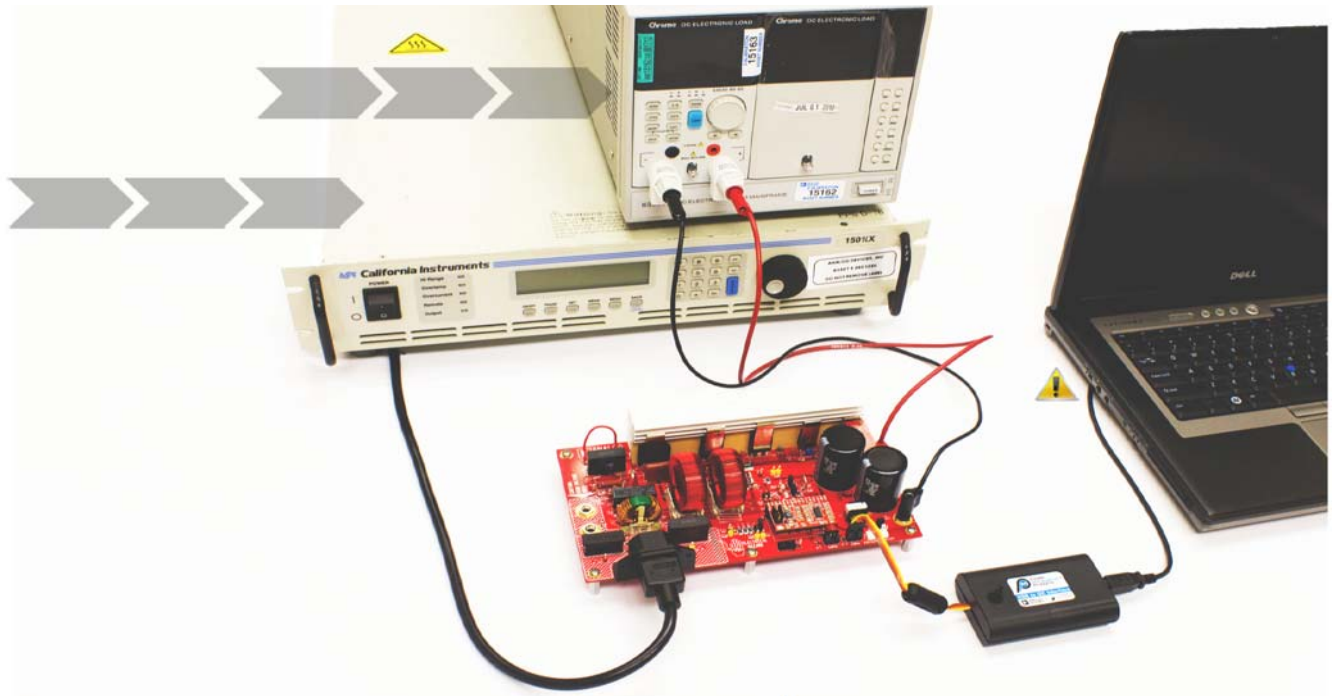

Figure 1 - Evaluation Board Setup
- 4) Connect the evaluation board to the USB port on the PC using the “USB to I2C interface” adapter as shown in Figure 1.